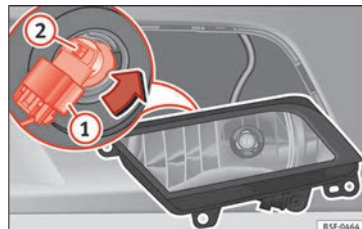

Fig. 152 Front fog light.
- Remove connector » Fig. 152 ① from the bulb.
- Turn the bulb holder » Fig. 152 ② anti-clockwise and pull.